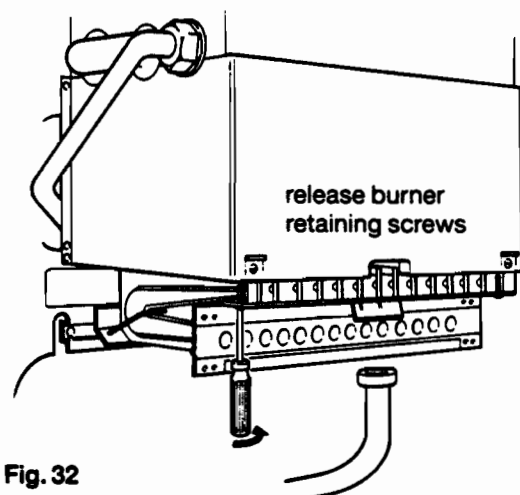

Fig. 32
8.7 To remove main burner (figs 32 - 33)